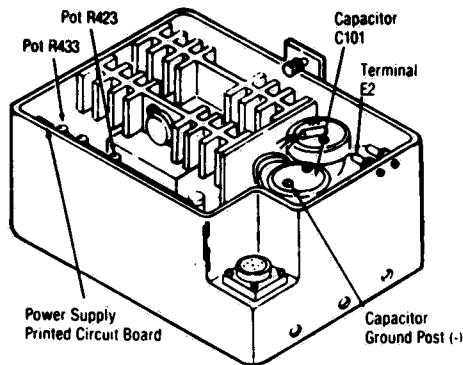

Figure 7-21A. POWER SUPPLY (IRC).
2. Connect the DVM to ground post of capacitor C101 (-) and to terminal post E2 (+). Refer to Figure 7-21A.